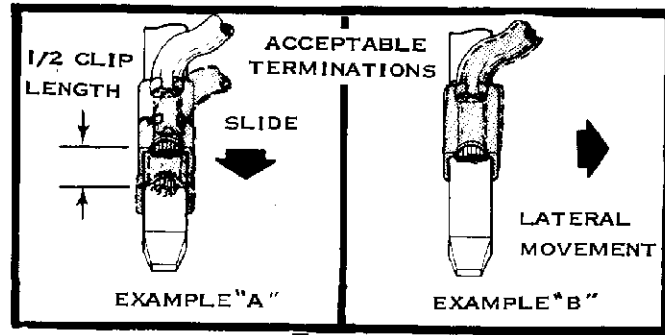

FIG. 2
- (c) Clip may slide, no more than 1/2 the Clip Length, before the Indicator Ring is visible. See Figure 2-A.
- (d) Lateral Clip movement during test, see Figure 2-B, does not affect the quality of termination.
- (d) Clip may slide no more than 1/2 the Clip Length, before reading is obtained. See Figure 2-A.
- (e) Lateral Clip movement during test, see Figure 2-B, does not affect the quality of termination.